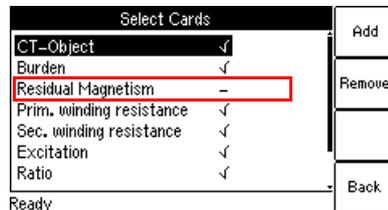

Figure 4-1 **Select Cards** page
2. For reasons of simplicity, we do not want to perform a residual magnetism measurement in our example CT test described here. Press the **Select Cards** soft key in the **CT-Object** card to open the **Select Cards** page. Check, and if necessary make the following test card selection (see Figure 4-1):